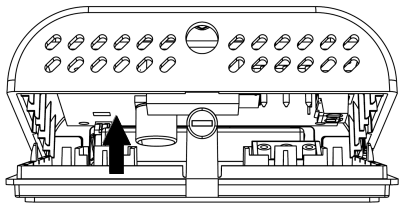

Fig. 3
- 2 Turn the cover, while pressing it slightly, until it is fully extracted (Fig. 3).